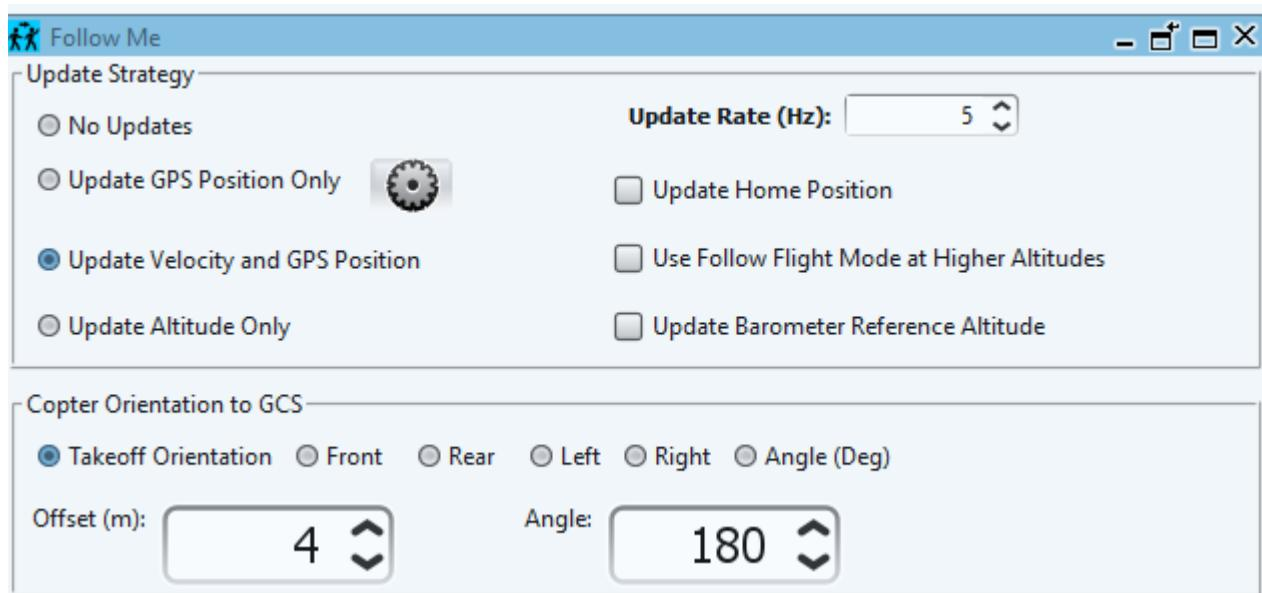

Figure 47 – Follow Me settings panel
9. Once the settings are tuned, perform another test with arm, launch, increase altitude and nudge to another position, change the relative orientation and offset using the “Follow Me” panel shown in Figure 47. Click on the RTL to initiate Guided RTL and verify that the copter landed at the original relative orientation to the GCS GPS antenna.